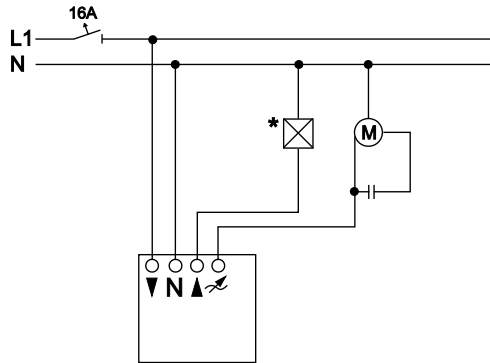

Fig. 3: Circuit diagram
2. Install the supplied wall box (1) vertically in the wall.
3. Connect the speed controller according to the circuit diagram (Fig. 3).
5. Attach the combination frame (2) and attach the cover plate (3) with the ventilation slots vertically.
6. Set the control lamp (8) onto the central clamps, so that the nose is aligned with the adjusting shaft.
7. Attach the cover plate (4) and fasten it with the nut.
2. Pull the control knob (6) clamped with the spring off the shaft.
3. Loosen the nut (5) and remove the cap (2).
7. Feed the wires through the sealing nozzle and connect them to the speed controller with the clamps pointing down, according to the circuit diagram (Fig. 3).